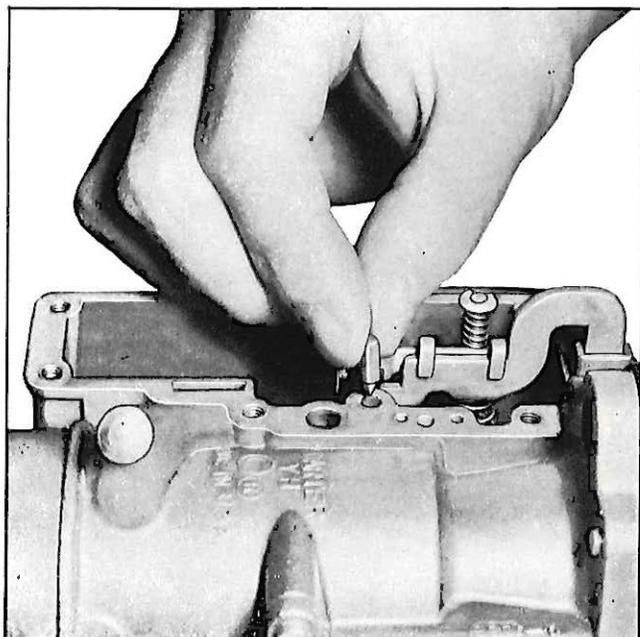

Fig. 18—Install Pump Discharge Needle
13. Install pump discharge needle (fig. 18) then install a new cover gasket on bowl and install bowl cover and six screws.